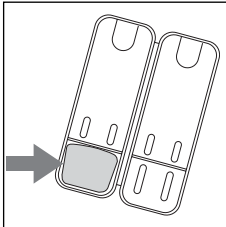

fig. 2
- Open the chlorine filter holder by pressing the parts marked "PUSH", and carefully position the chlorine filter as shown in (Fig. 2).